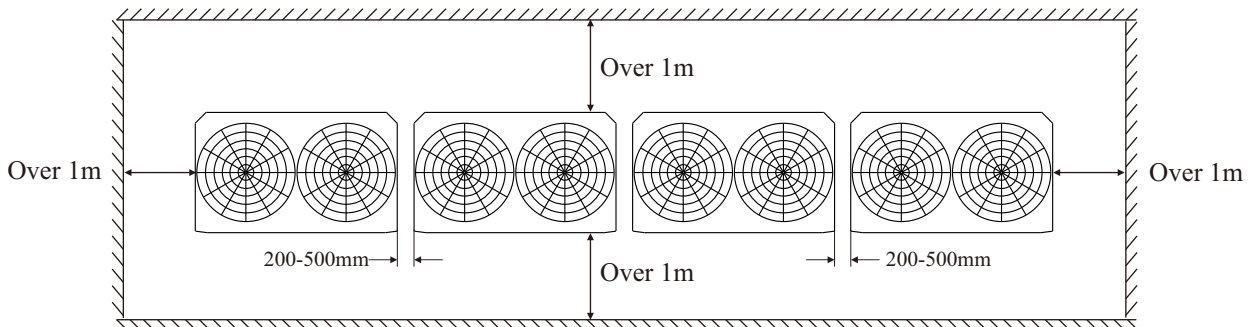

Figure 3-10.2
- 2) After leaving the overhaul space as shown in Figure 3-10.2, install the outdoor units and then install the power-supply equipment on the sides of the outdoor units. Please refer to the Manual for Installation of Power-supply Equipment for the installation method.